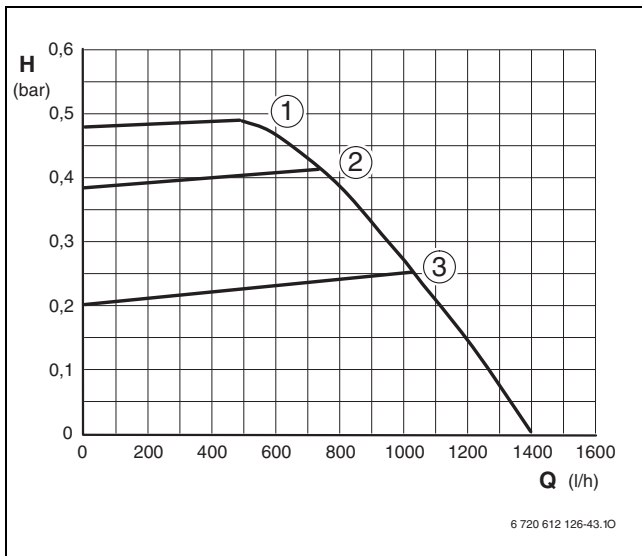

Fig. 45 Constant pressure
**Legend for Fig. 45 and 46:**